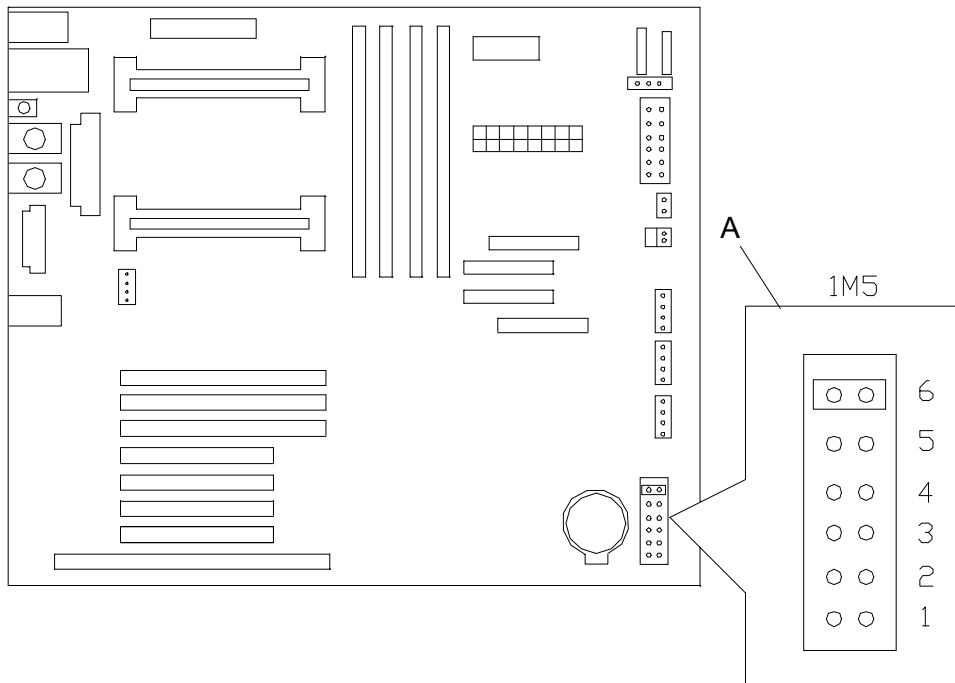

Figure 3-1. System Board Jumpers
The “System Board Jumpers” illustration (Figure 3-1) shows the location of the system board jumpers (A). Table 3-3 “System Board Jumper Configurations” lists the system board jumpers and their factory default settings.